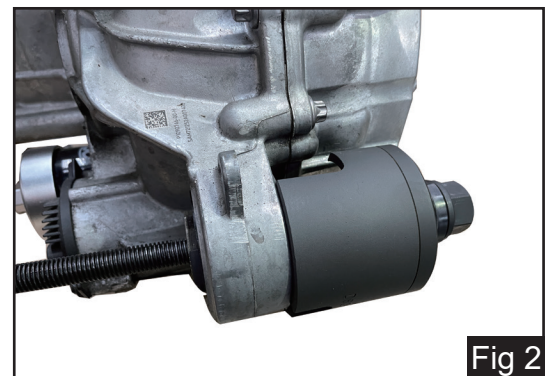

Fig 2
- 3 Insert the spindle and receiving sleeve through the central hole on the bushing (Fig. 2)
- 2 Insert the spindle and receiving sleeve through the central hole on the bushing (Fig. 2)